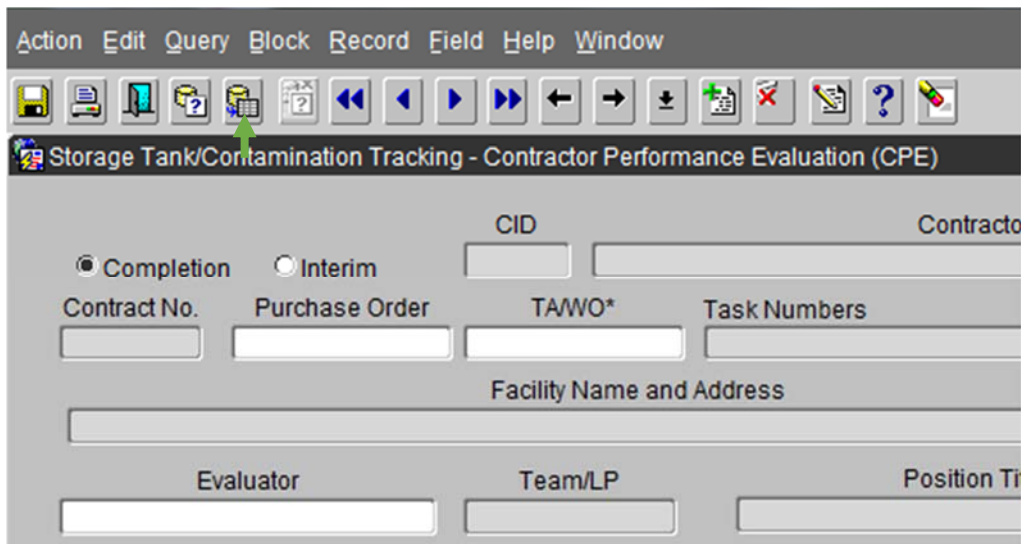

Figure 6
2. On the CPE screen, **click “Enter Query”** (Fig. 6, red arrow) or press **F11**.
4. **Click “Execute Query”** (Fig. 6, green arrow) or press **F12**.